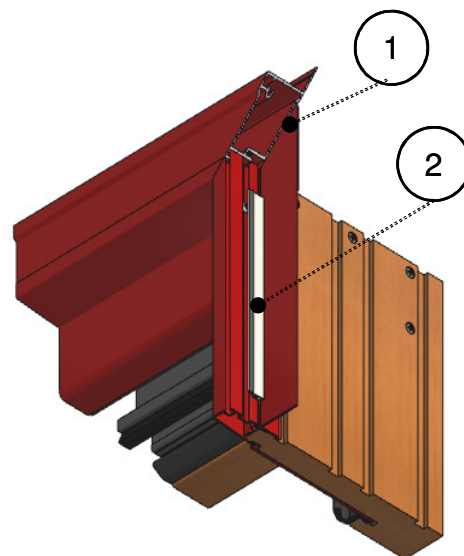

Figure 2
- 3) Apply continuous bead of Chem-Calk Bostik 2020 on each end of brickmould to head corner. (Figure 2)